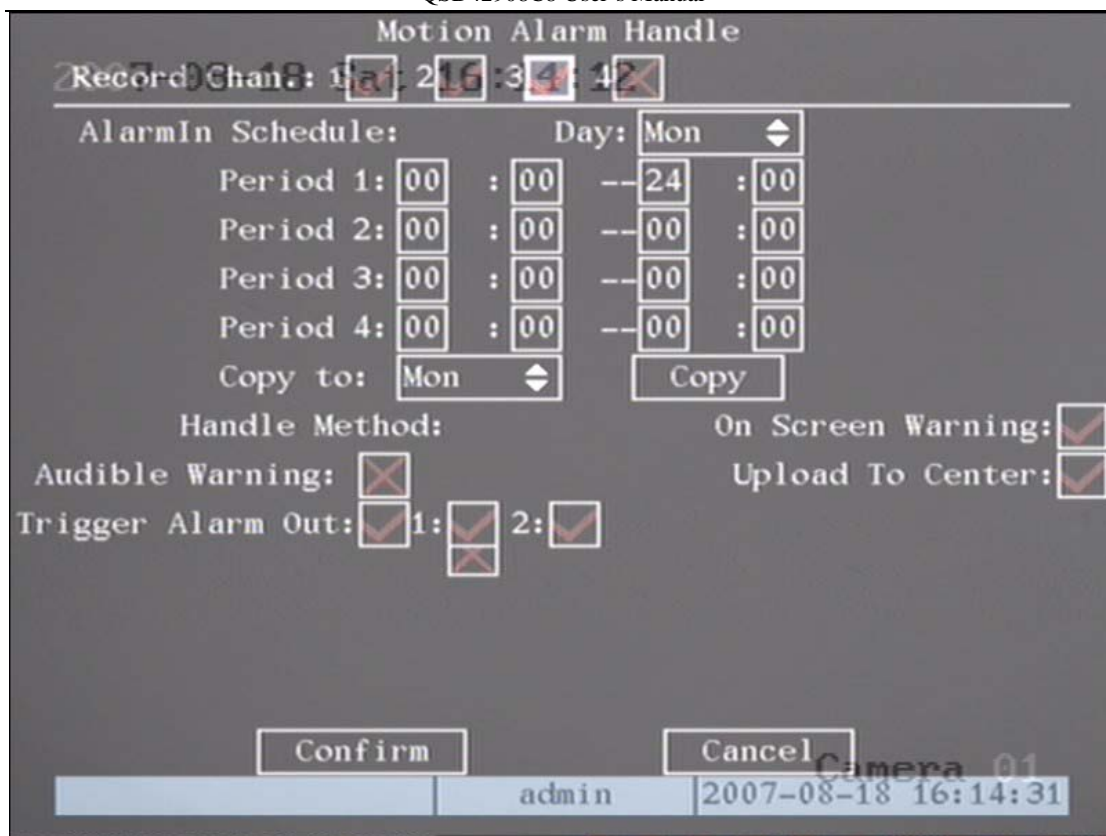

Fig 5.18 Motion alarm handle setup
Step 5: Motion alarm policy: Move “Active Frame” to the corresponding “Policy” button of motion detection alarm, press **【ENTER】** key to enter into “Motion Alarm Handle” menu shown as fig 5.18